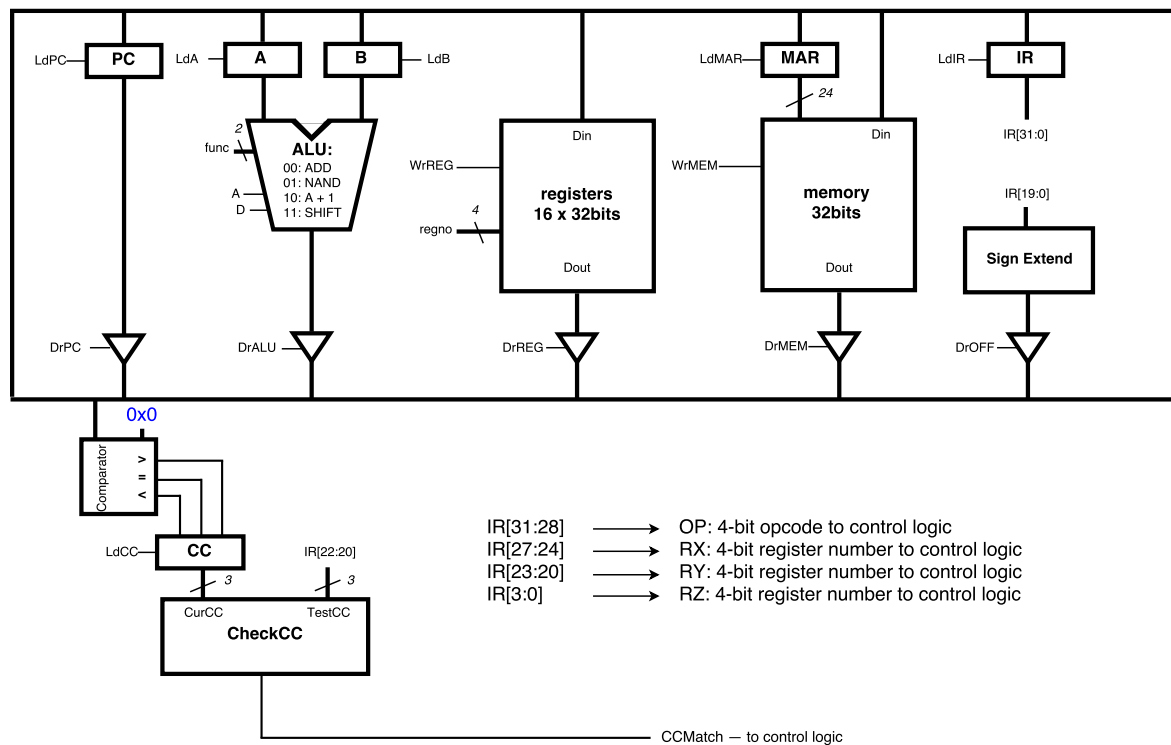

Figure 1: Datapath for the LC3-2200a Processor
2. Using Logisim, implement the LC3-2200a datapath. To do this, you will need to use the details of the LC3-2200a datapath defined in Appendix A: LC3-2200a Instruction Set Architecture. You should model your datapath on Figure 1.
To implement the BR instruction, you need to design and implement the CheckCC module indicated in Figure 1. The CheckCC module takes as input the current condition codes from the CC register, as well as the N, Z, and P bits from the instruction. The module then uses combinational logic to produce the CCMATCH bit for your control logic.
2. Implement the Microcontrol Unit using Logisim. The appendix contains all of the necessary information. Take note that the input and output signals on the schematics directly match the signals marked in the LC3-2200a datapath schematic (see Figure 1).
3. Connect the completed control unit to the datapath you implemented in Phase 1. Using Figure 1 and the microcontrol unit schematic, connect the control signals to their appropriate spots.